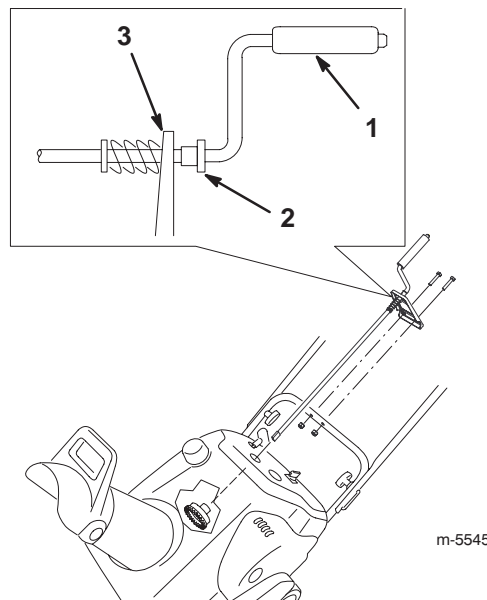

Figure 11
1. Insert the flattened end of the chute crank through the hole in the shroud while aligning the mounting bracket with the holes in the lower handle (Fig. 11).
2. Slowly rotate the crank until the flattened end fits into the hidden gear opening and the chute ring turns with the crank (Fig. 11).
3. Ensure that the plastic bushing is fully inserted into the hole in the mounting bracket. If not, slide it along the crank and into the hole (Fig. 11).
4. Secure the mounting bracket to the handle with 2 bolts and locknuts (Fig. 11).